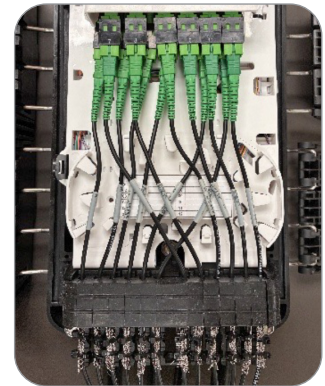

Figure 37
7. Repeat steps 1-6 for all remaining drop cables. (Figure 37)